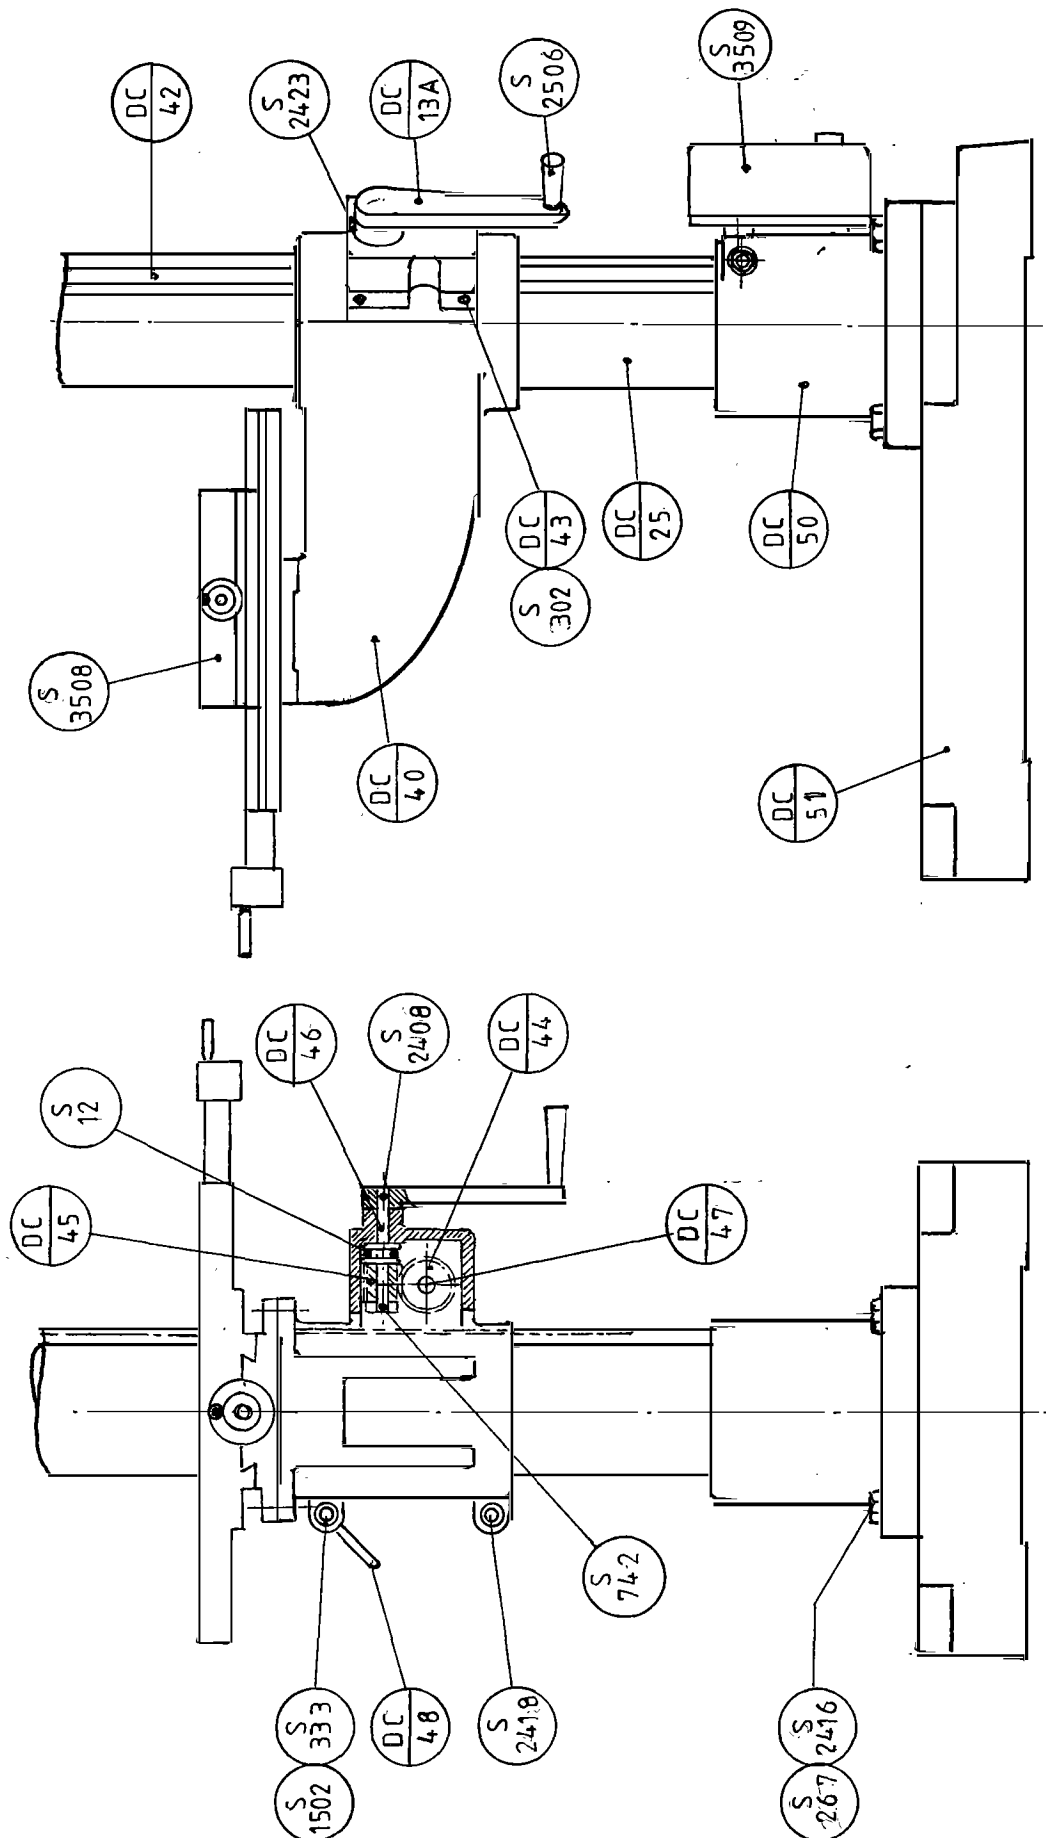
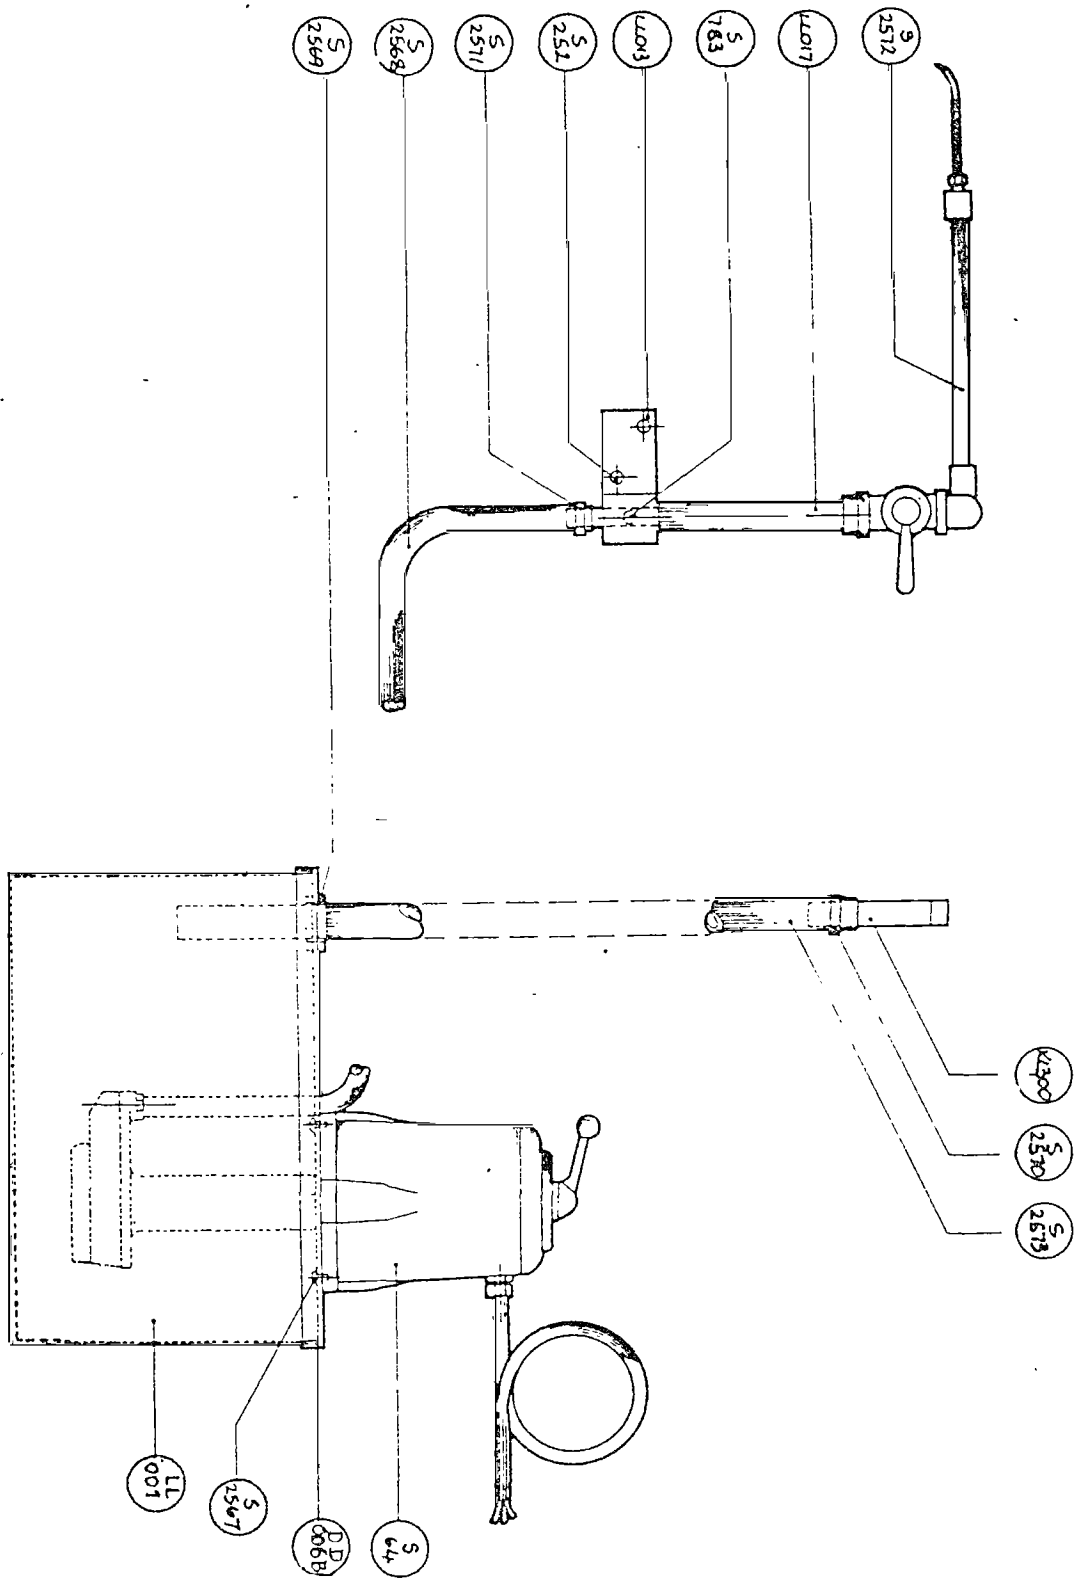

FIG. 6
FIG. 7.
- b) keep the cross-piece (11) inclined on one side by letting it rest on the guide-ways on the base (26);
- c) place the gib (24) with its notches outward;
- d) tighten screws (23) placing them in the gib notches;
- e) tighten the nuts (22);
- f) assemble the central screw bracket (4)
6) ADJUSTMENT OF THE GIBS (fig. 6)
- a) withdraw the splined table (25) and the under-laying cross-piece (11) as far as possible;
- b) tighten screws (23) as indicated with the arrows (a);
- c) advance the splined table (25) and the under-laying cross-piece (11) as far as possible;
- d) tighten the screws (23)
- e) bring the splined table (25) and the cross-piece (11) back to the central position;
- f) while keeping the screws (23) fixed, tighten their respective nuts (22).
7) AXIAL ADJUSTMENT OF THE CENTRAL SCREW (fig. 7) (a)
- a) remove nut (2) and washer (3);
- b) remove the details (6 and 7) together with the control-wheel (15), paying attention not to lose the Woodruff key (4);
- c) loosen the security dowel (5);
- d) with a suitable spanner adjust the end play of the central screw (21) or (27), operating on the adjusting ring nut (16);
- e) lock the adjusting ring-nut (16) by tightening the security dowel (5);
- f) position the Woodruff key (4) in its seat in the central screw;
- e) tighten nut (2).